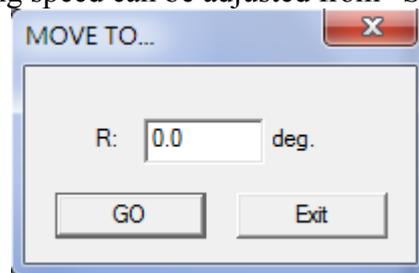

Fig. 1.7.33
1. Click "MOVE TO..." button and input the degree value in the dialog box like Fig.1.7.33 and click "GO," the rotary axis will rotate to that specific angle. The rotating speed can be adjusted from "Speed" parameter.